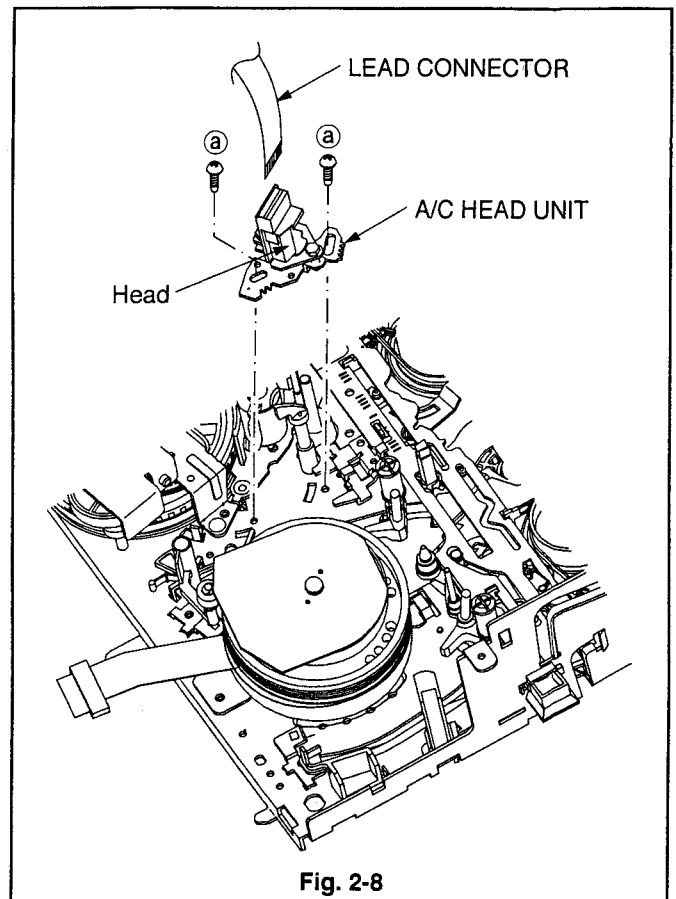

Fig. 2-8
1. Remove the LEAD CONNECTOR of the A/C HEAD UNIT shown in the Fig. 2-8.
2. Remove the two screws (a) fastening the A/C HEAD UNIT shown in the Fig. 2-8 to remove the A/C HEAD UNIT.
1. Install the A/C HEAD UNIT shown in the Fig. 2-8.
- Note :** Never touch the Head of the A/C HEAD UNIT shown in the Fig. 2-8. Clean the dirt on the Head with alcohol if necessary.
2. Install the LEAD CONNECTOR of the A/C HEAD UNIT shown in the Fig. 2-8.